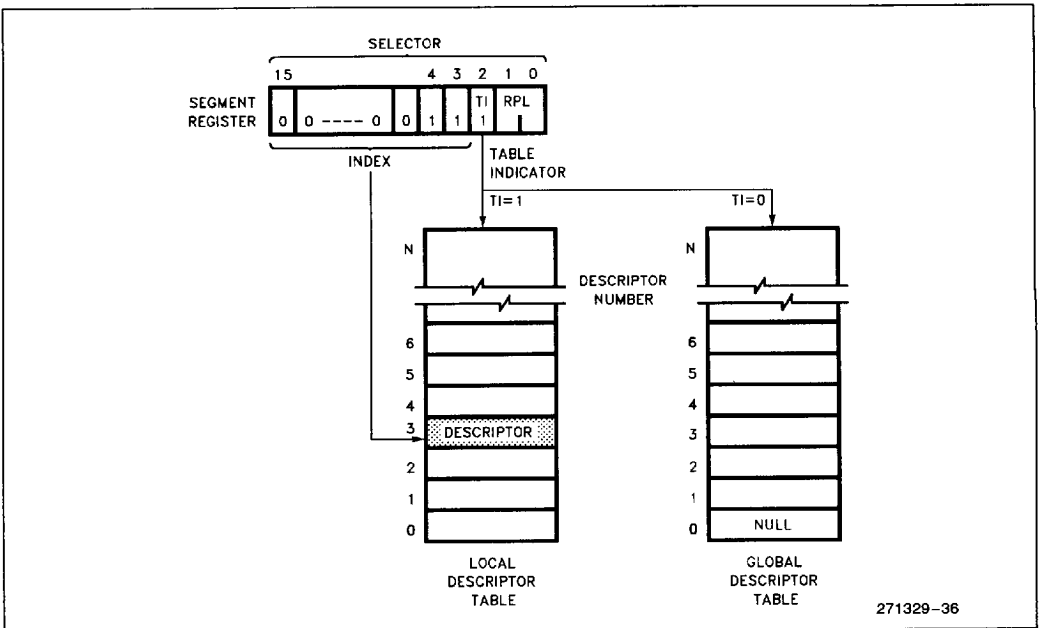

Figure 6-9. Example Descriptor Selection
A selector in Protected Mode has three fields: Local or Global Descriptor Table Indicator (TI), Descriptor Entry Index (Index), and Requester (the selector's) Privilege Level (RPL) as shown in Figure 6-9. The TI bits select one of two memory-based tables of descriptors (the Global Descriptor Table or the Local Descriptor Table). The Index selects one of 8K descriptors in the appropriate descriptor table. The RPL bits allow high speed testing of the selector's privilege attributes.